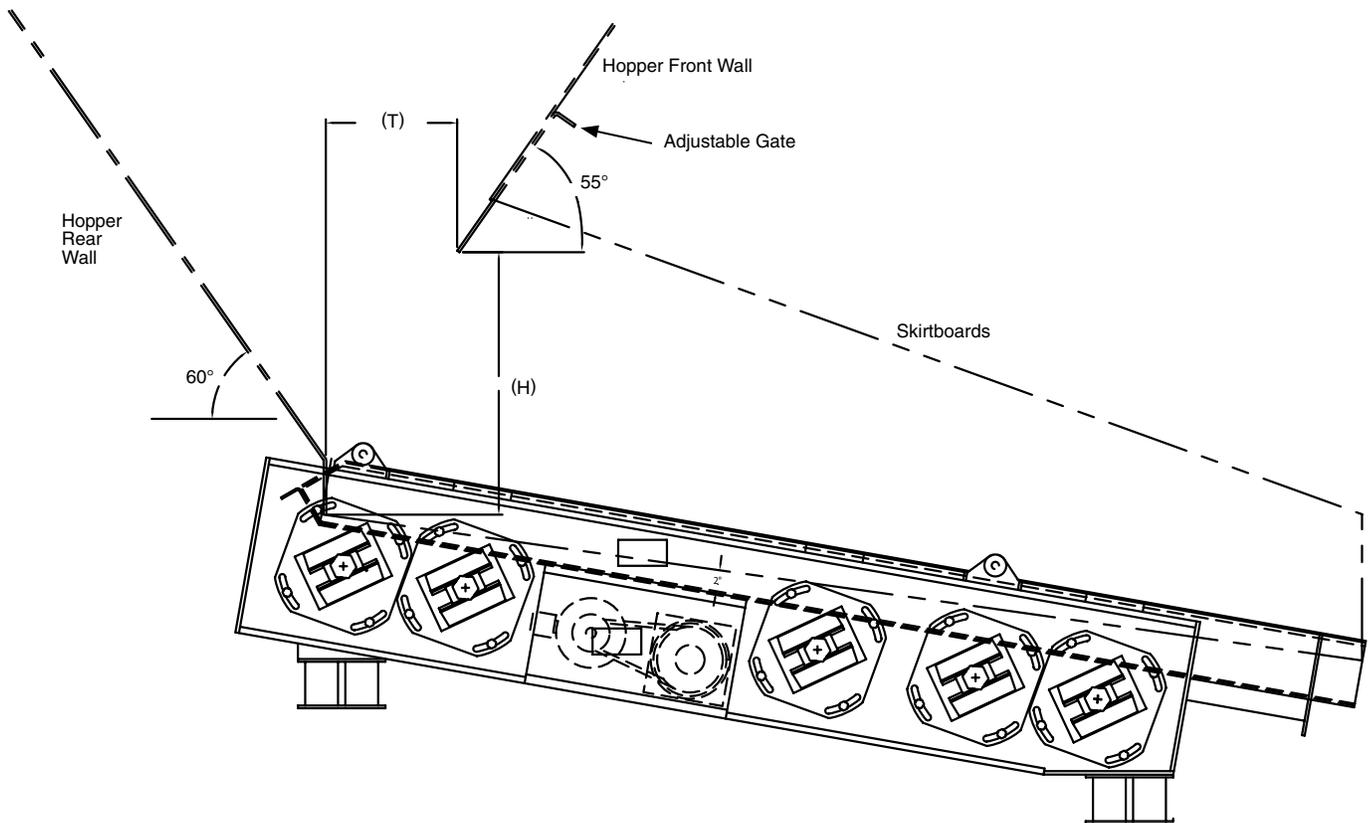

FIGURE 5
Make sure that with the hopper slide gate at full open the angle of repose of the material being fed reaches 0 on the tray at least 6" before the end of the feeder tray. If not material will continue to flow off the tray even with the feeder shut off. During operation the gate height should be 1.2–1.5 times the depth of material burden depth (B) needed to meet capacity requirements. Refer to Figure 5.